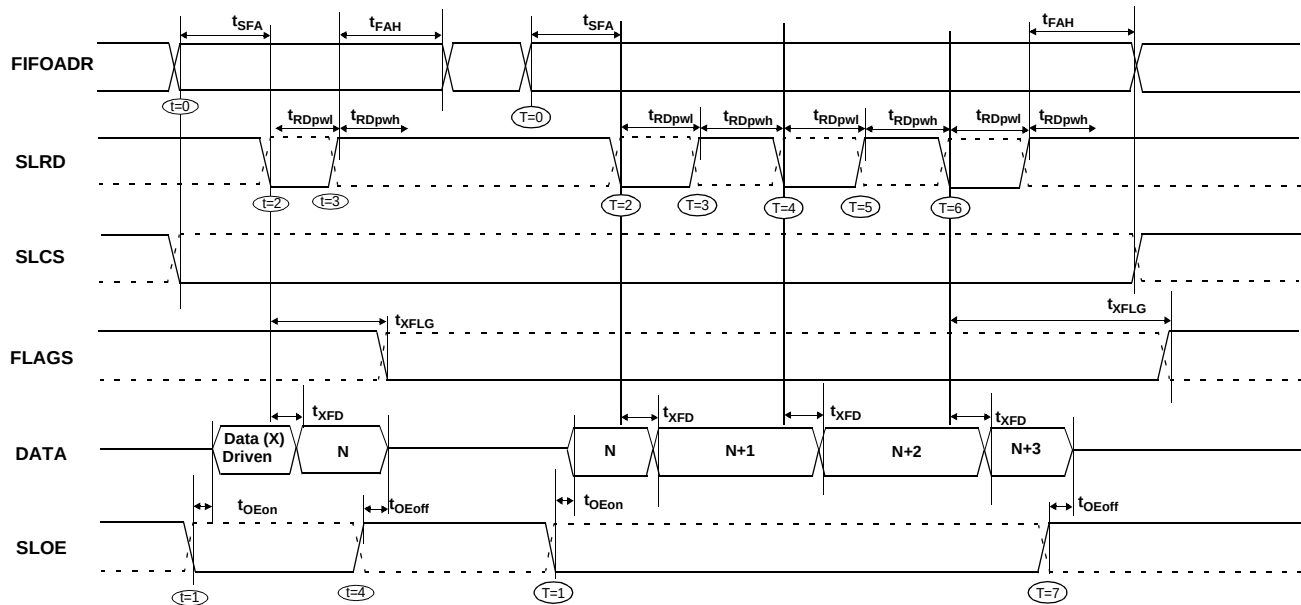

Figure 10-19. Slave FIFO Asynchronous Read Sequence and Timing Diagram
Figure 10-19 diagrams the timing relationship of the SLAVE FIFO signals during an asynchronous FIFO read. It shows a single read followed by a burst read.
- The data that will be driven, after asserting SLRD, is the updated data from the FIFO. This data is valid after a propagation delay of t_{XFD} from the activating edge of SLRD. In Figure 10-19, data N is the first valid data read from the FIFO. For data to appear on the data bus during the read cycle (i.e. SLRD is asserted), SLOE MUST be in an asserted state. SLRD and SLOE can also be tied together.